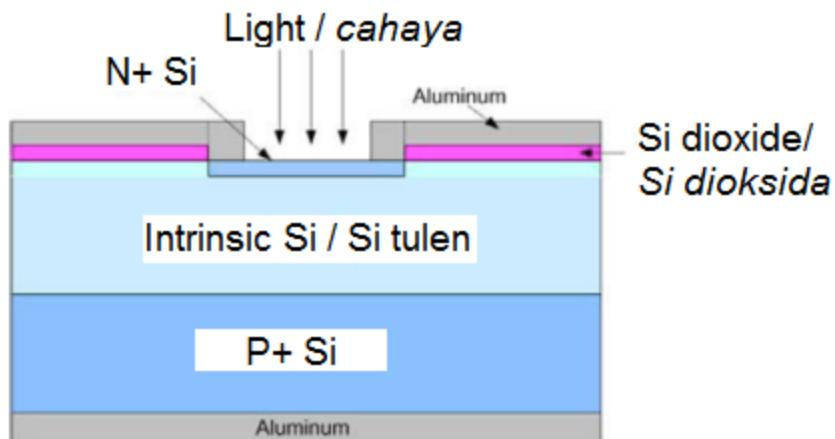

Figure 1: P-I-N diode structure / Rajah 1: Struktur diod P-I-N
4. For doping a thin layer on a silicon wafer to form a P-I-N (P-type – intrinsic – N-type) diode structure as shown in schematic (Figure 1), the following processes are involved: preparation masking oxide (thickness is 500 nm), lithography, etching, photoresist stripping and then the application of dopant.